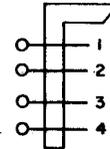

Fig. 10—415A Plug
2.10 415A: The 415A plug (Fig. 10) consists of a metal frame containing four spring-loaded contact plungers for making contact with terminals on terminal strips and a metal sliding arm designed to fit over the clamping strip. The plungers are connected to the terminal screws and are designed for connection to the P4L, P4R, and W4J cords. This plug is used with the distributing frame terminal strips.